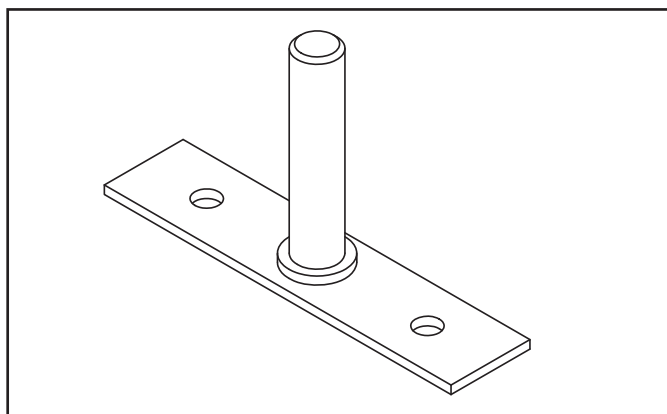

Figure 7.6— Log Pin Assembly
**NOTE:** Prior to installing the log set, you must first install the pin brackets on the burner. Fireglass and the air deflection glass should only be installed *after* the pin brackets are in place. The logs must then be placed in the unit after the fireglass and air deflection glass. If the optional logs are added after the air deflection glass and fireglass are in use, move the fireglass away from the areas in Figure 7.6 and install the support brackets, then arrange fireglass evenly across burner again.